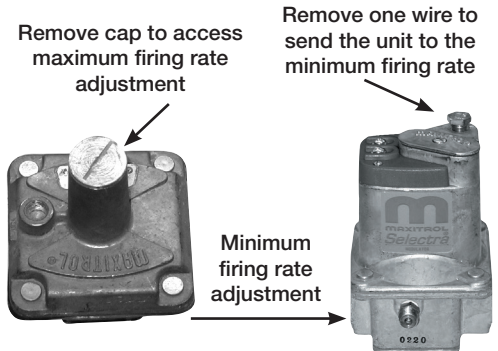

Fig. 2 Separate Regulator and Modulating Valves
8. Open main hand valve and then set maximum firing rate to the design temperature rise located on the direct gas nameplate. (**Fig. 2/Fig. 3**)
9. Set the minimum firing rate to achieve a small ribbon of continuous blue flame across the burner. (**Fig. 2/Fig. 3**)